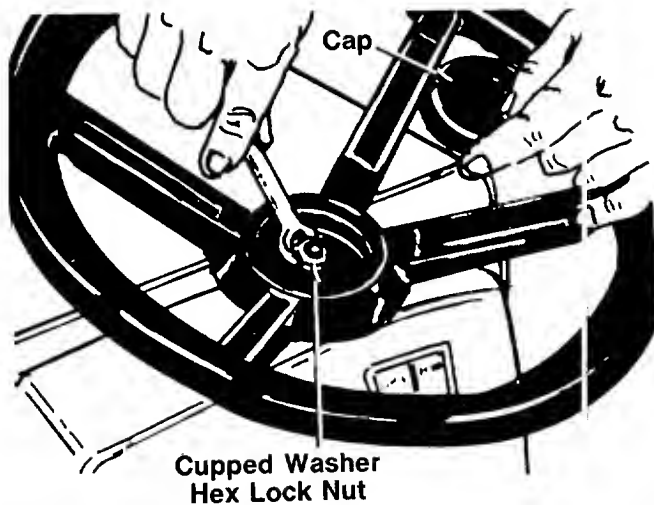

FIGURE 5.
5. Place the washer with the cupped side down over the steering column. Secure with 5/16" hex lock nut. See figure 5.